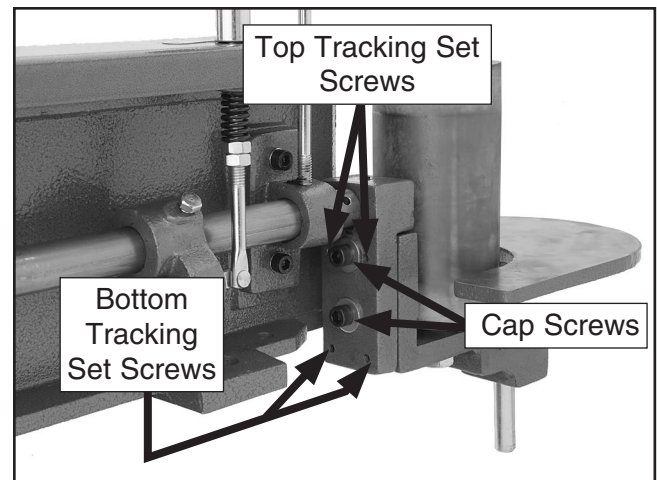

Figure 53. Idler roller adjustment screws.
4. Loosen the two cap screws behind the idler roller, shown in **Figure 53**, approximately half a turn, and notice the four set screws nearby—these control the parallel tracking of the sanding belt.
6. Tighten the two cap screws shown in **Figure 53**.